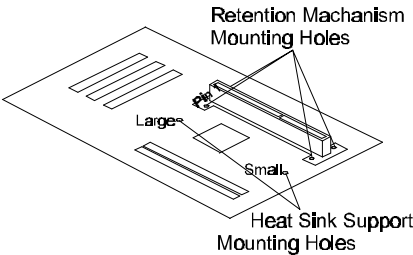

Figure 2-2
1. Finds out the Retention Mechanism (RM) Mounting Holes and "Pin 1" mark of Slot 1 on HOT-671 main board. (Refer to Figure 2-2)